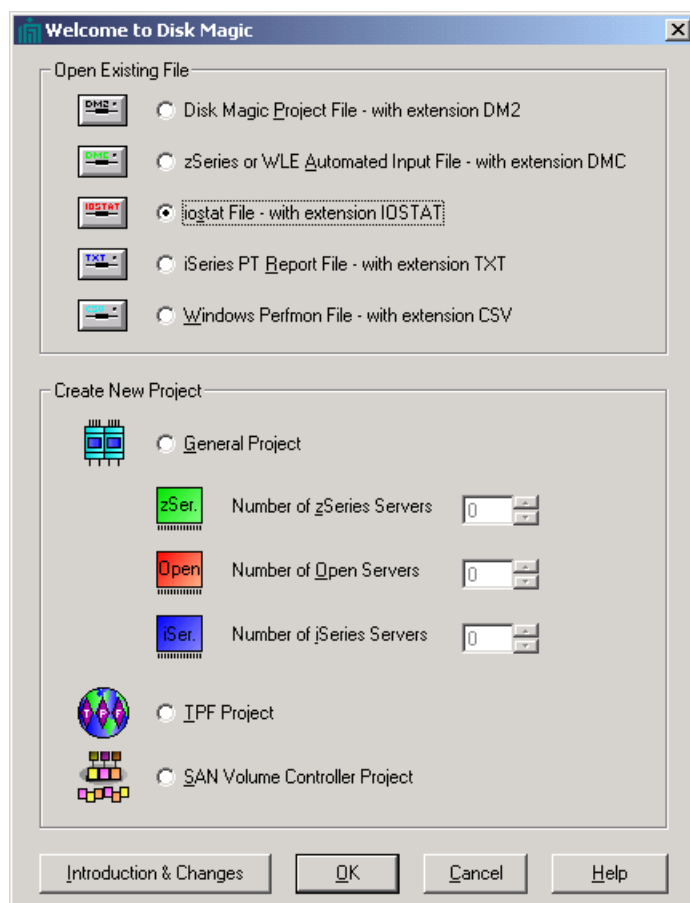

Figure 8-6 Importing an iostat file into Disk Magic
3. To use the resulting iostat file in Disk Magic, start Disk Magic and select **iostat file** from the Open Existing File area, as shown in Figure 8-6. This will create a new project with one server and one disk system. Later, you can add more iostat data from other servers.